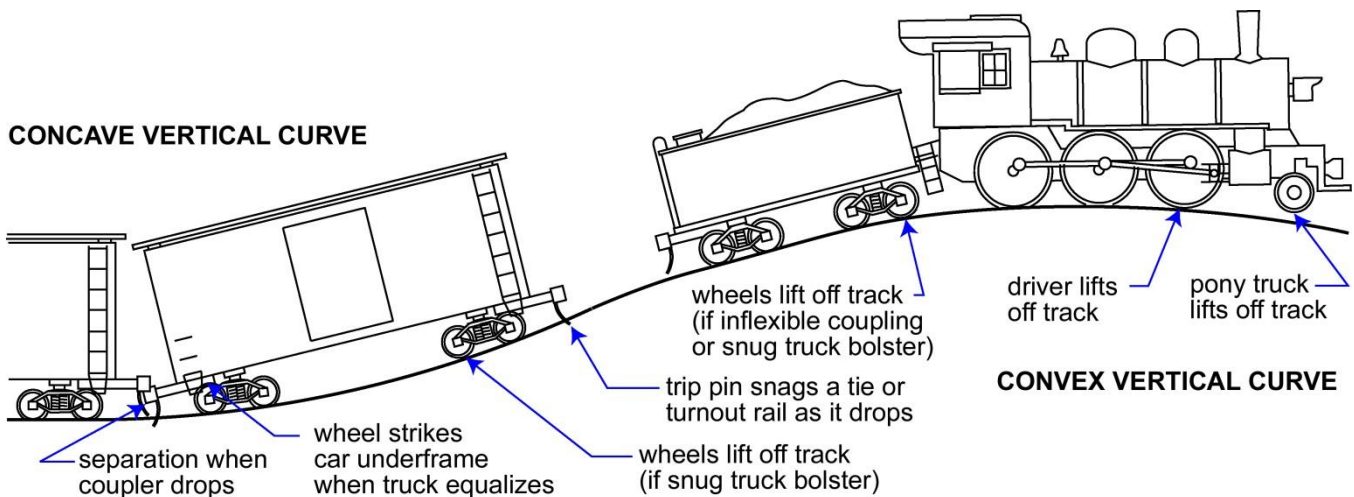

Figure 4 - Vertical Curves
- Detect excessive vertical curvature that could cause the problems seen in Figure 4. If a horizontal curve occurs on an excessive vertical curve, any wheels that are “lifted off the track” will derail.